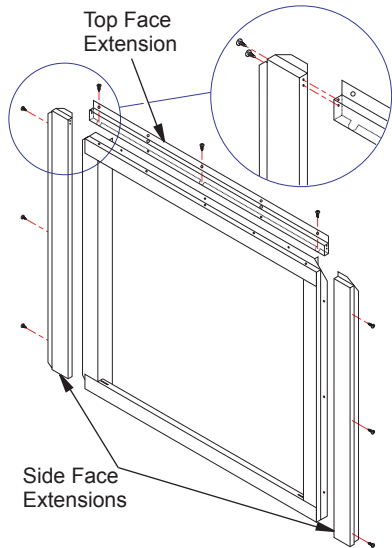

Figure 40 - Front Face Extension, Model CD36M-LS Only
1. Remove existing screws from front face assembly as shown in Figure 40.
2. Align holes on top face extension with holes on top side of front face assembly and secure with screws previously removed (see Figure 40).